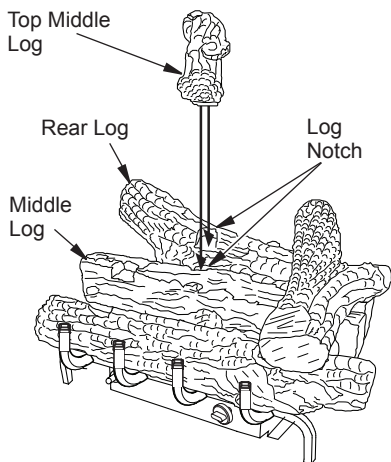

Figure 28 - Installing Middle Log
5. Place the top middle log onto the rear & middle logs as shown in Figure 28. Make sure to match up the shape on the bottom of the top middle log with the notches in the rear and middle logs.